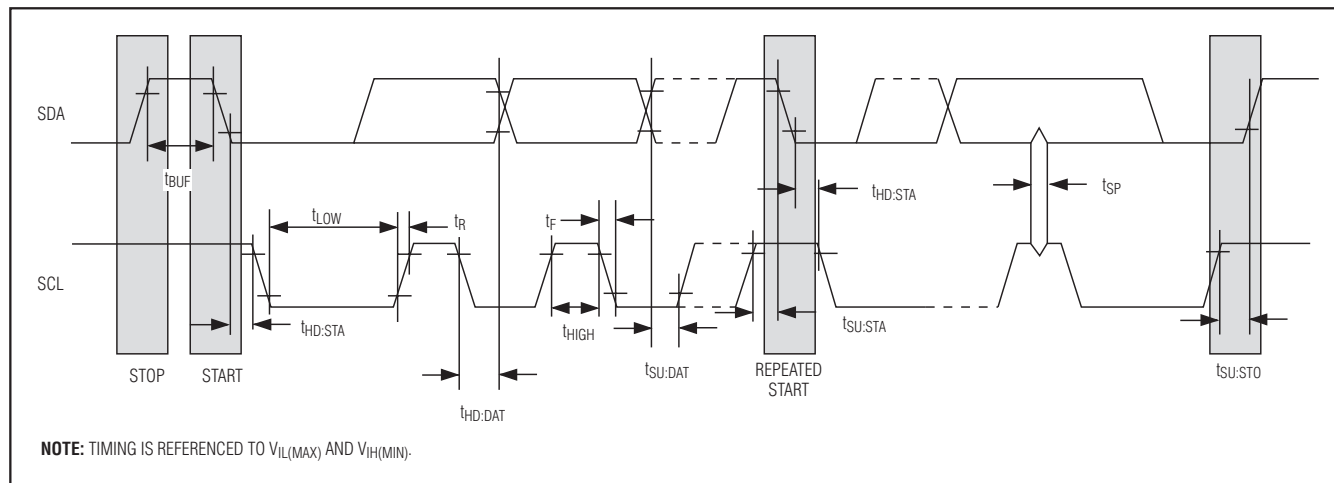

Figure 9. I2C Timing Diagram
**START Condition:** A START condition is generated by the master to initiate a new data transfer with a slave. Transitioning SDA from high to low while SCL remains high generates a START condition. See Figure 9 for applicable timing.
**STOP Condition:** A STOP condition is generated by the master to end a data transfer with a slave. Transitioning SDA from low to high while SCL remains high generates a STOP condition. See Figure 9 for applicable timing.
**Repeated START Condition:** The master can use a repeated START condition at the end of one data transfer to indicate that it will immediately initiate a new data transfer following the current one. Repeated START conditions are commonly used during read operations to identify a specific memory address to begin a data transfer. A repeated START condition is issued identically to a normal START condition. See Figure 9 for applicable timing.
**Bit Write:** Transitions of SDA must occur during the low state of SCL. The data on SDA must remain valid and unchanged during the entire high pulse of SCL plus the setup and hold-time requirements (Figure 9). Data is shifted into the device during the rising edge of the SCL.
**Slave Address Byte:** Each slave on the I2C bus responds to a slave addressing byte (Figure 9) sent immediately following a START condition. The slave address byte contains the slave address in the most significant 7 bits and the R/W bit in the least significant bit.